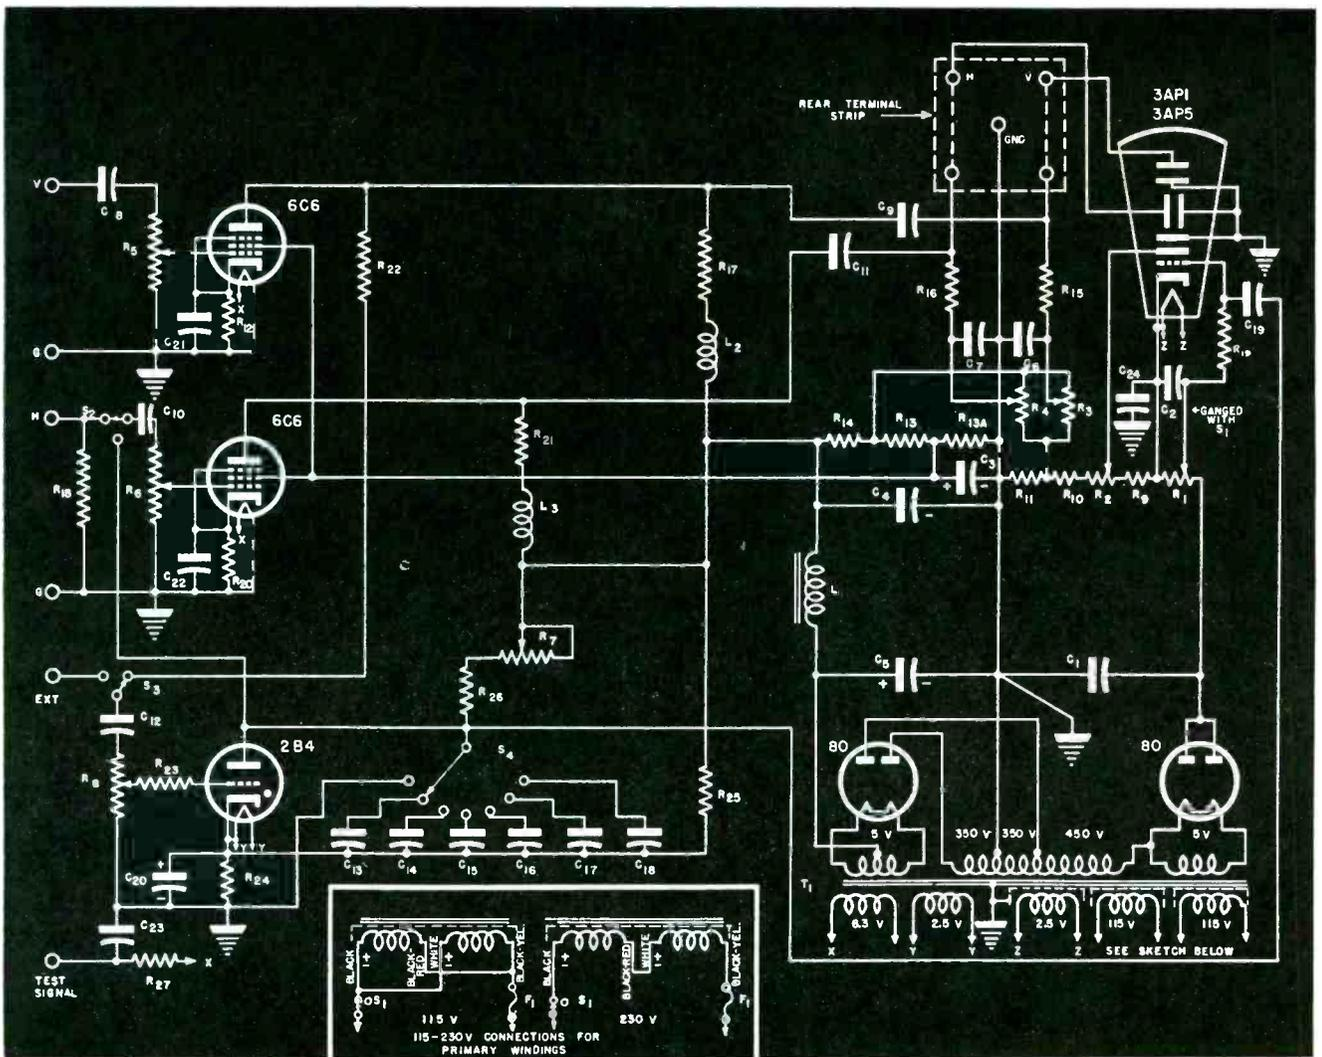

Fig. 2. Circuit of oscillograph using 3" tube; Du Mont 164-E.
Most commercially available oscilloscopes are arranged as portable units similar to the *Du Mont 208B* unit, Fig. 1. In this form, the unit is portable and may even be carried into the field for electronic circuit investigation. The circuit of an instrument of this type, but of less complex nature, *Du Mont 164E*, appears in Fig. 2.
The right hand 80 rectifier, Fig. 2, rectifies the *negative* half-cycles of the 800-volt a-c potential between the filament or cathode of this tube and chassis. (Continued on page 40)
Fig. 3. The d-c circuits of the oscillograph shown in Fig. 2. The only departure from resistance-capacitance coupled amplifiers appears in the c-r tube electrode supply circuits. Note that the maximum potential present in this system is the sum of the output voltages provided by the two rectifier systems.
Figs. 1 (left) and 2 (right). In Fig. 1, we have resistance characteristic curves illustrating linear, left-hand, right-hand, and combination left-and-right-hand taper. Fig. 2 shows two variations of an audio shunt type of volume control. Both require a control having left-hand taper, but the control terminals are connected differently in each case.
Several types of manual volume-control circuits—especially those of the *shunt* or *short-out* types—require a control having left-hand taper of suitable resistance characteristic to obtain smooth, uniform control of volume. The volume-control circuit illustrated at (A) of Fig. 2 is of this type. The control is connected as a potential divider shunting the secondary of the audio transformer. It enables any desired fraction of the audio voltage developed by the secondary to be applied to the grid circuit of the audio tube. Full loudness is obtained when the movable contact *C* is at the full-resistance (*R*) end of the volume control resistor, for then the full audio-voltage is applied to the grid. Since it is desired that full loudness should occur when the volume control knob has been turned (clockwise) fully toward the *R* terminal of the control, the control must be connected into the circuit with its *L* and *R* terminals arranged as shown in the diagram, i.e., contact arm *C* approaches right-hand terminal *R* for the full-loudness position.
A slight variation of this circuit is illustrated at (B) of Fig. 2. Here the contact arm is connected to ground. Since maximum audio voltage will now be applied to the grid circuit of the tube when the contact is at the lower end of the resistor, full volume will be produced when it is in this position. Therefore, the control must be connected so that its left-hand, *L*, terminal goes to the grid and its right-hand